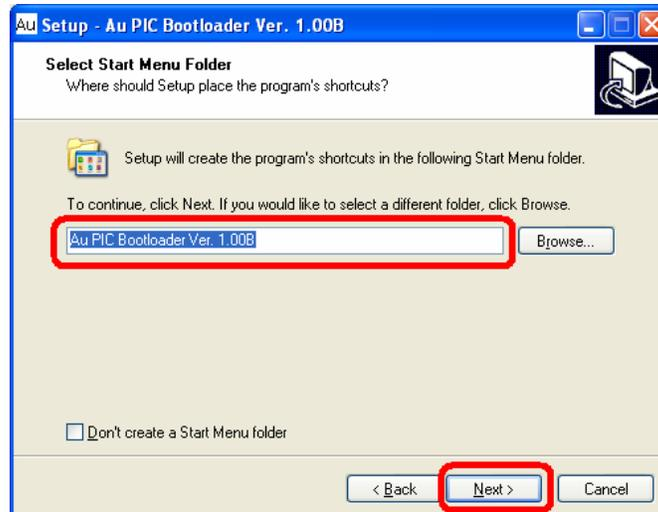

Figure 6-18
5. A “Select Start Menu Folder” window will pop up, use default setting “AU PIC Boot-loader”, then click “next” (Figure 6-18).